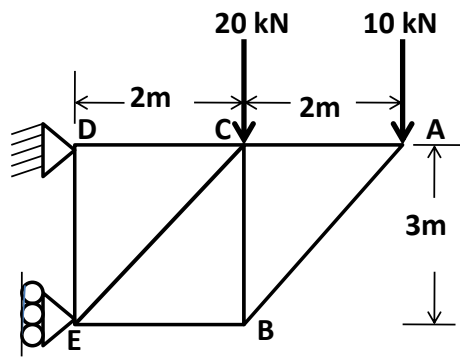

Fig.1
- (b) Determine forces in all members of cantilever truss loaded as shown in Fig. 1 by method of joint. **07**